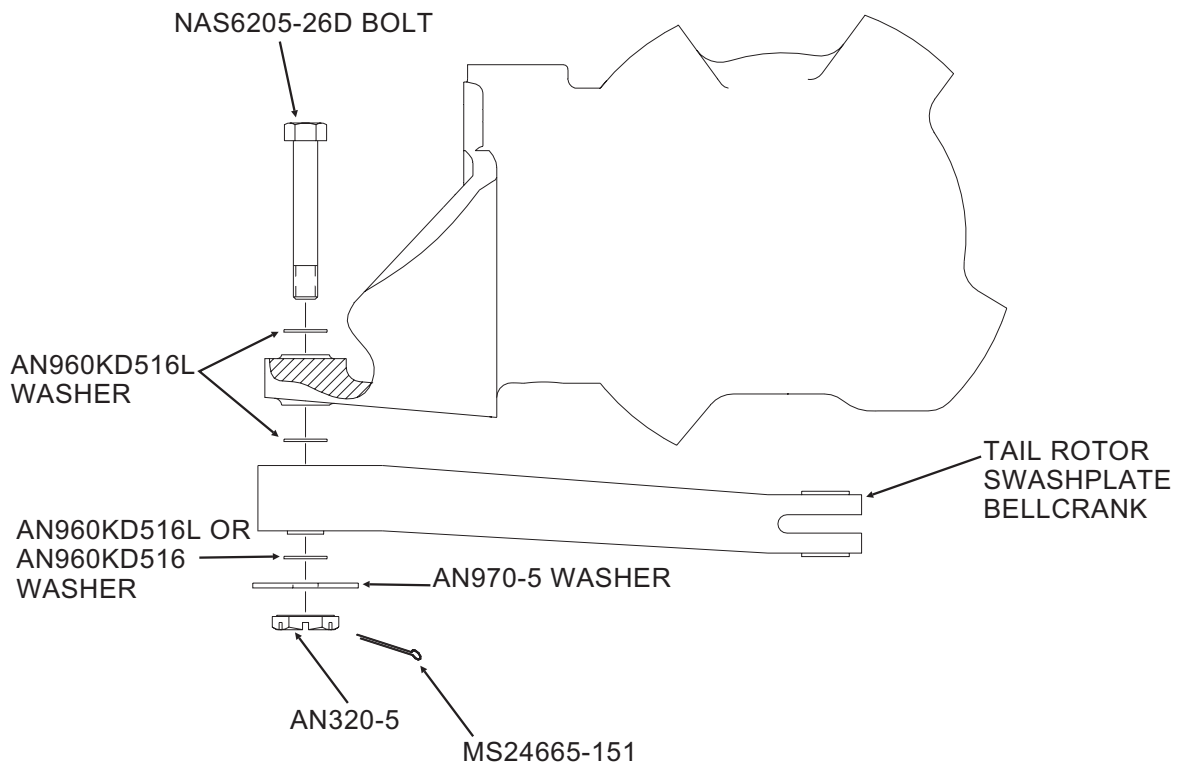

Figure C1B-019-1 Tail Rotor Transmission
- Remove tail rotor swashplate bellcrank assembly from tail rotor transmission mount and discard NAS6205-25D bolt. Install bellcrank using NAS6205-26D bolt, AN970-5 large area washer, AN320-5 nut and MS 24665-151 cotter pin. Use AN960KD516L or AN960KD516 washers as required to shim for clearance between bellcrank and transmission mount and AN970-5 washer as shown in Figure C1B-019-1.